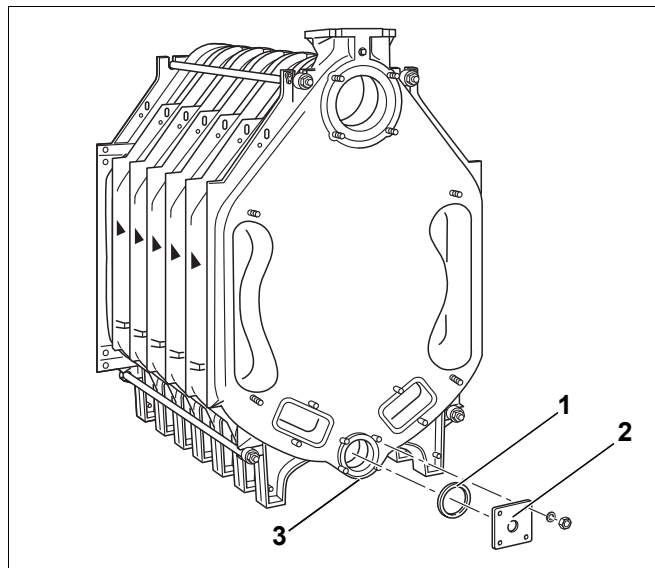

Fig. 26 Install the flange
- Close the lower boiler hub (Fig. 26, [3]) at the front and rear. To do this, set the corresponding gasket (Fig. 26, [1]) onto the respective boiler hub and secure the blanking flange with 110 mm edge length. The flange with internal thread (R ¾") for the fill and drain connection (Fig. 26, [2]) is installed at the rear of the boiler.